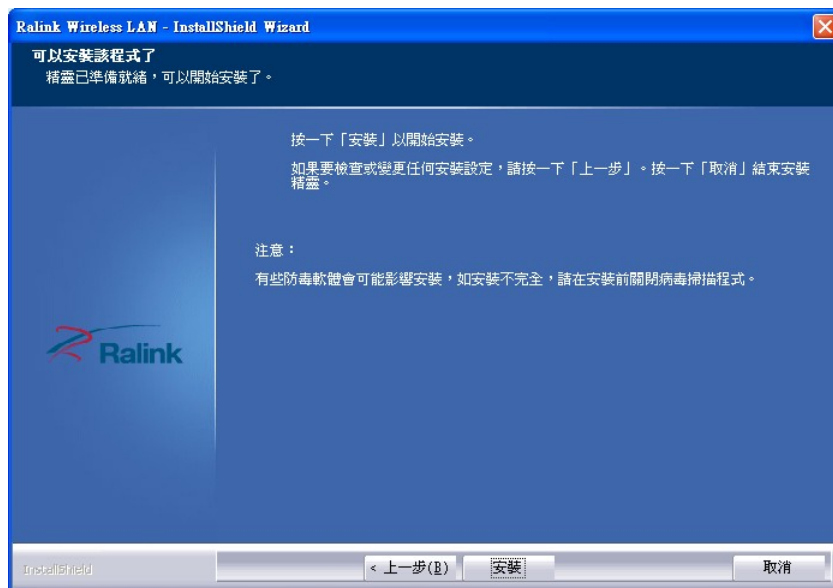

Figure 7-43: Wireless Driver Installation
Step 7: Click **INSTALL** in **Figure 7-43** to start to install the driver.